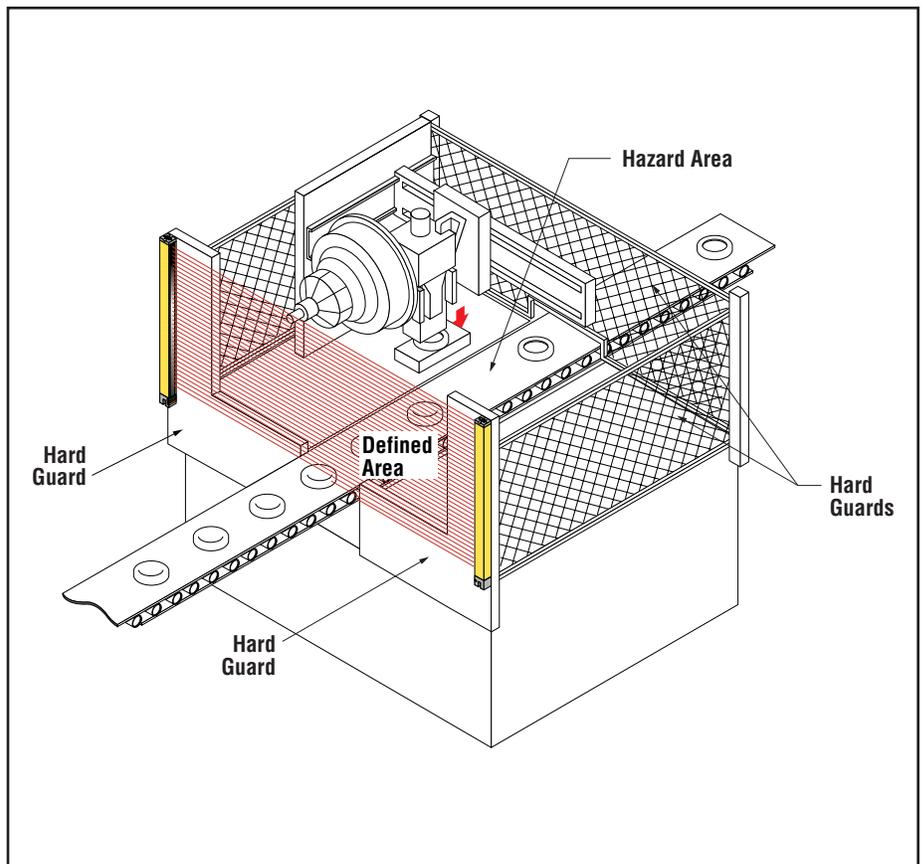

Figure 8. Example of hard guarding
ANSI B11.1-1988, 6.3.2 (14) requires that “all areas of entry to the point of operation not protected by the presence-sensing device shall be otherwise safeguarded.” The hazard point must be accessible *only* through the defined area. This means that mechanical barriers (screens, bars, etc.), or supplemental presence sensing devices (*supplemental guarding*) must be installed, wherever needed, to prevent any person from reaching around, under, or over the defined area and into the hazard point. The use of mechanical barriers for this purpose is called “hard guarding” (see the WARNING at left and Figure 8, below).